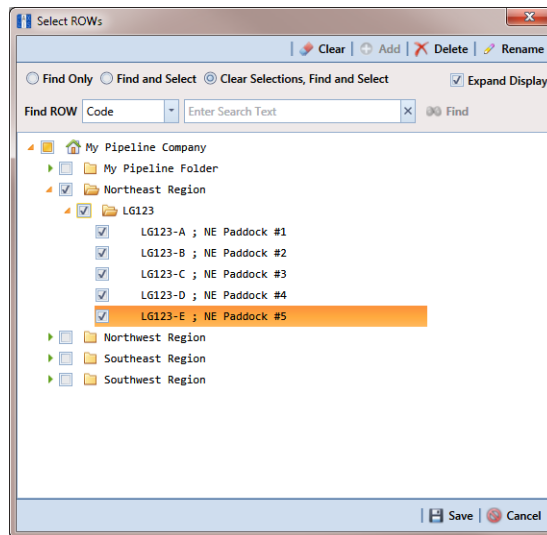

Figure 6-3. Select ROWs
- 1 Click the **Select ROWs** button  to open the *Select ROWs* window (Figure 6-3). Select the pipeline segment(s) with the facilities you want to work with, then click  **Save** to close the window.
- 1 Click the **Select ROWs** button  to open the *Select ROWs* window. Select the pipeline segment(s) associated with the continuous survey folder you want to delete. Then click  **Save** to close the window (Figure 6-3, page 197).
- 1 Select one or more pipeline segments in the *Select ROWs* window. Click  **Save** to close the window (Figure 6-3, page 197).
- 1** Select one or more pipeline segments in the *Select ROWs* window. Click  **Save** to close the window (Figure 6-3, page 197).